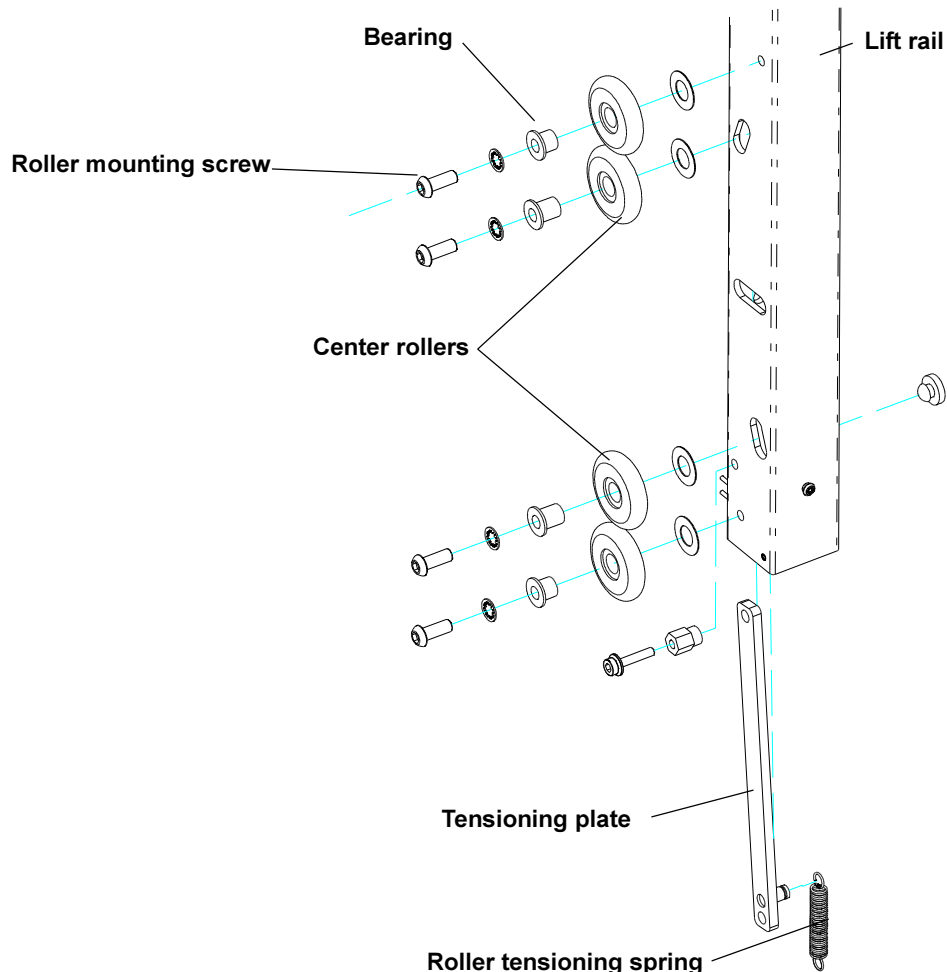

Figure 5-9
5.232 Replacing rollers and tension springs (Figure 5-9)
5.253 Replacing rollers, tension springs and cable carrier links (Figure 5-9)